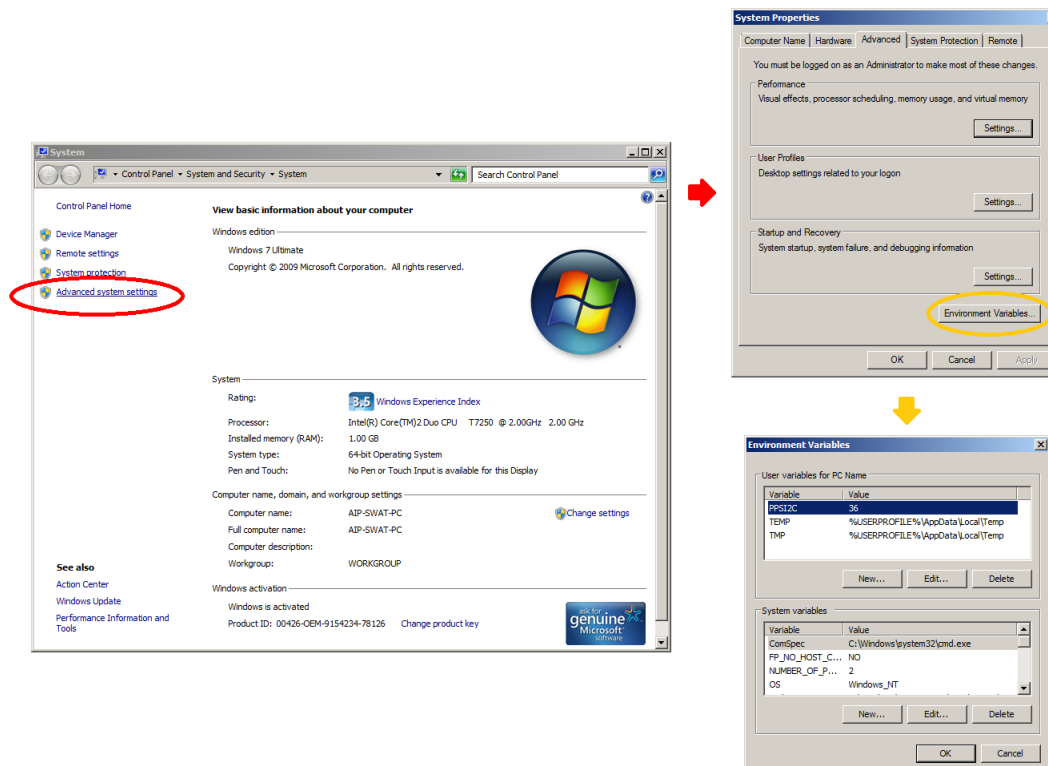

Figure 9. System Properties, Advanced Tab, and Environment Variables Windows
2. At the *System* window, click on *Advanced system settings*, then click on the *Environment Variables* button, as shown in Figure 9.